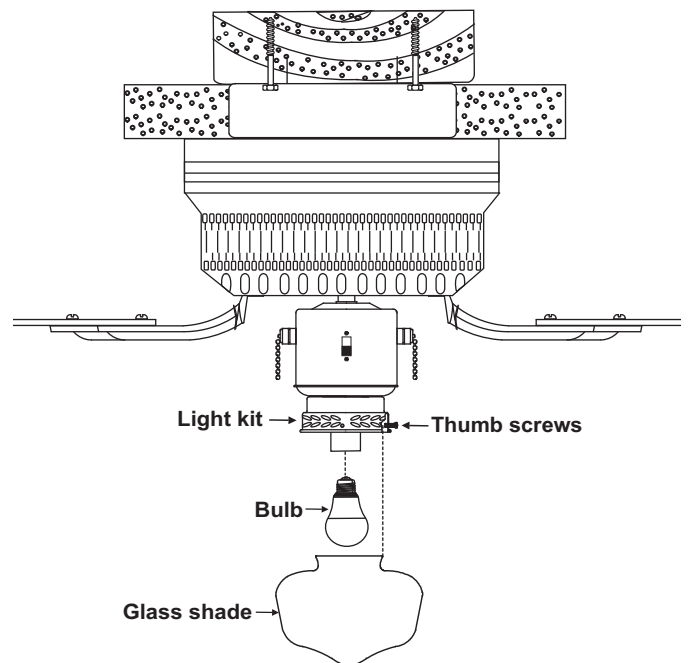

Figure 12
1. Install 9W LED bulb (included). (Fig. 12)
2. Mount the glass shades to the light fixture by unscrewing partway the thumb screws on the glass holders, insert the glass, then gently tighten the thumb screws by hand evenly to the glass. **DO NOT OVER TIGHTEN.** (Fig. 12)